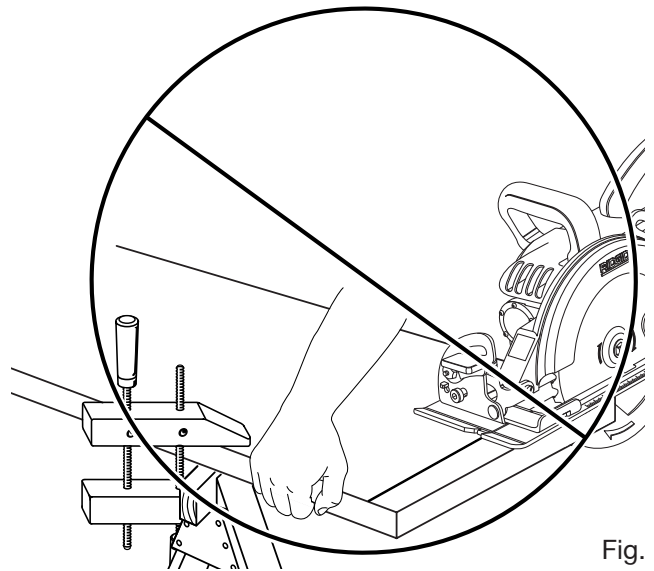

Fig. 11
See Figures 11, 12, and 13.
- Avoid placing your hand on the workpiece while making a cut. See Figure 11.